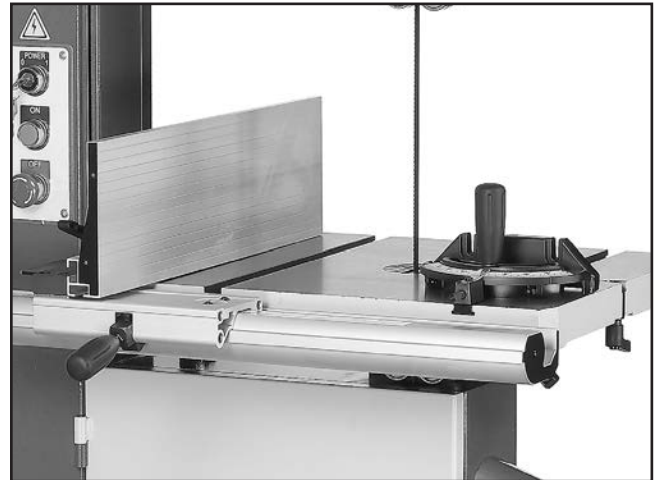

Figure 82. Resaw fence mounted in vertical position.
3. Install resaw fence (see **Figure 82**), set it to desired width of cut, and lock it in place.